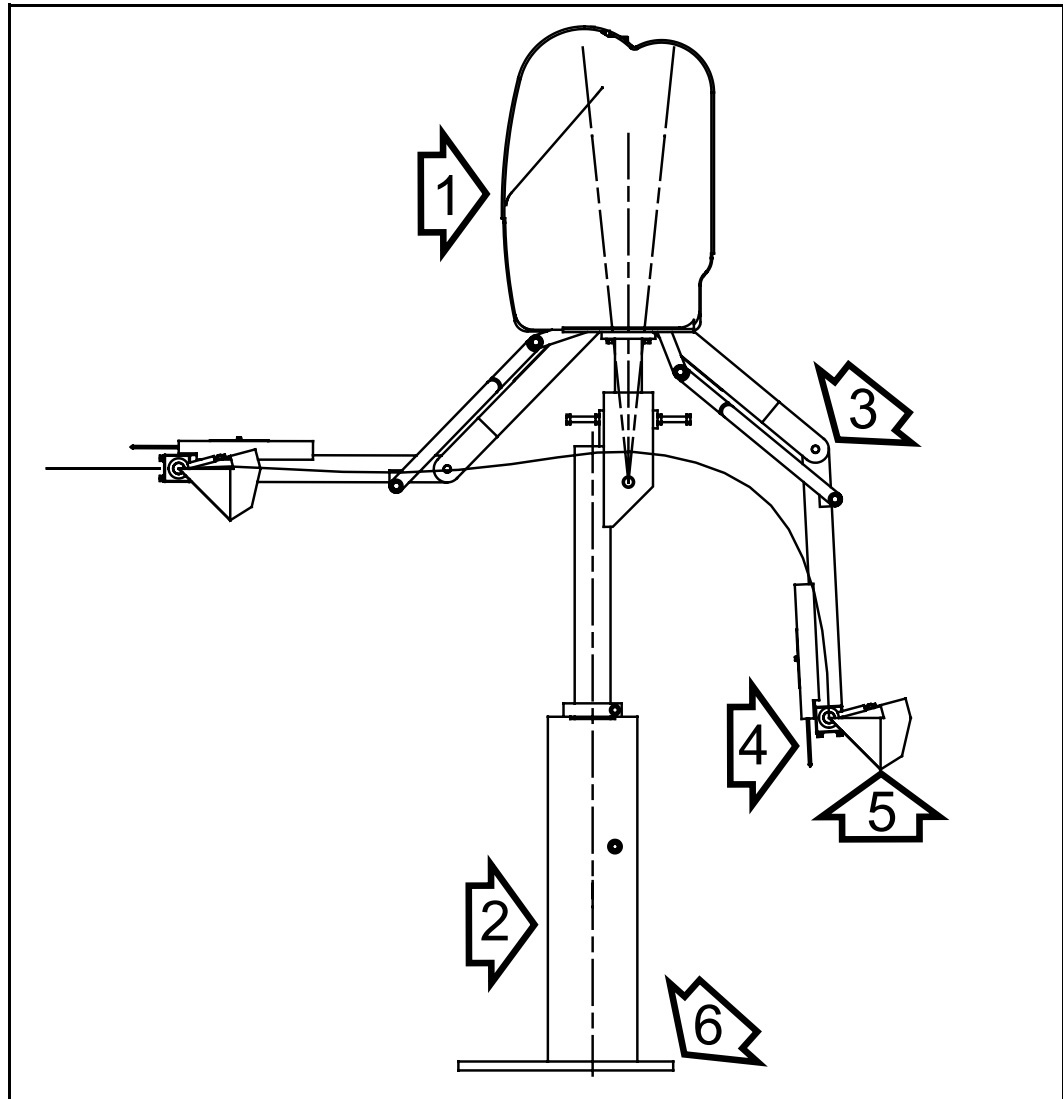

Figure 1-1: Multi-Link Mechanical Unit
- Mechanical Unit(Multi-Link or Dual Arm) (Figure 1-1)